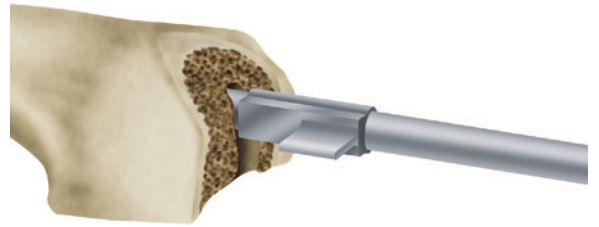

Figure 29
1. Slide the Offset Indicator (pointing medially) over the last reamer or trial stem connection rod assembly (Figure 29).